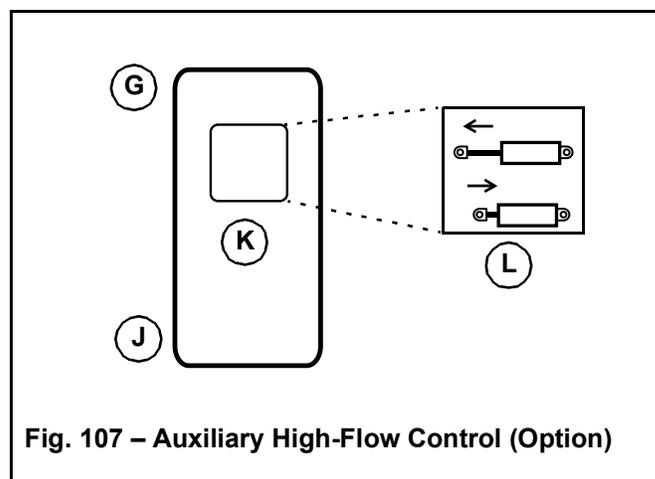

Fig. 107 – Auxiliary High-Flow Control (Option)
Press and release the top (G, Fig. 107) of the high-flow toggle switch (K) to activate high-flow auxiliary hydraulics flow in one direction.